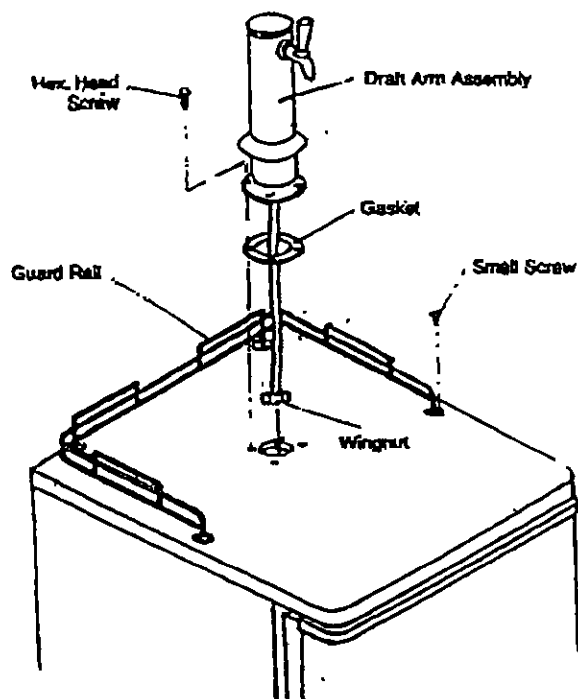

Fig. 1.
3. Install Draft Arm Assembly (see Fig. 1)
4. Install Guard Rail (see Fig. 1)